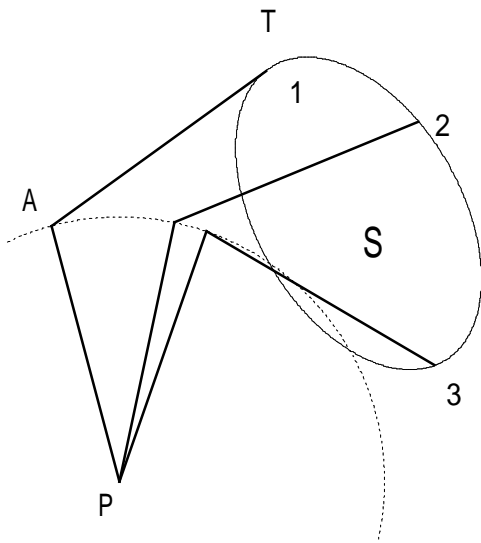

Fig.5
In the case of measurement of a figure of shape S as in Fig.5, the polar arm (PA) makes a single, left-to-right return, while the tracer arm makes a single, up-down return. At that time, the angle of rotation when the polar arm is moved from the leftmost point to the rightmost point becomes: